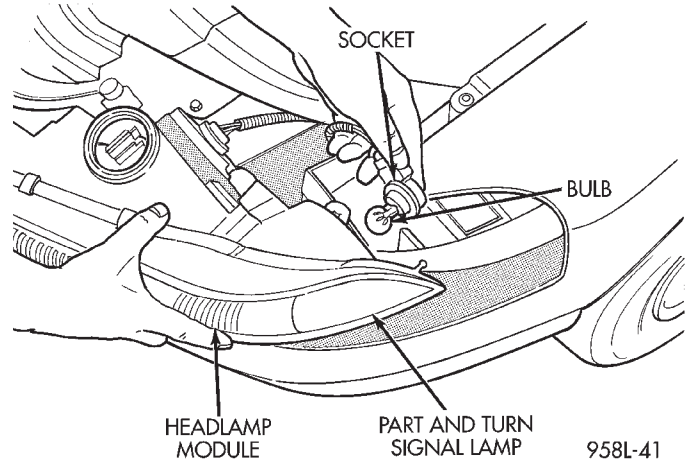

Fig. 5 Park and Turn Signal Lamp Bulb
- (1) Release hood latch and open hood.
- (2) Remove screws holding headlamp module to radiator closure panel.
- (3) Remove headlamp module from radiator closure panel.
- (4) Rotate socket counterclockwise one quarter turn.
- (5) Pull socket from back of lamp (Fig. 5).
- (6) Pull bulb from socket.